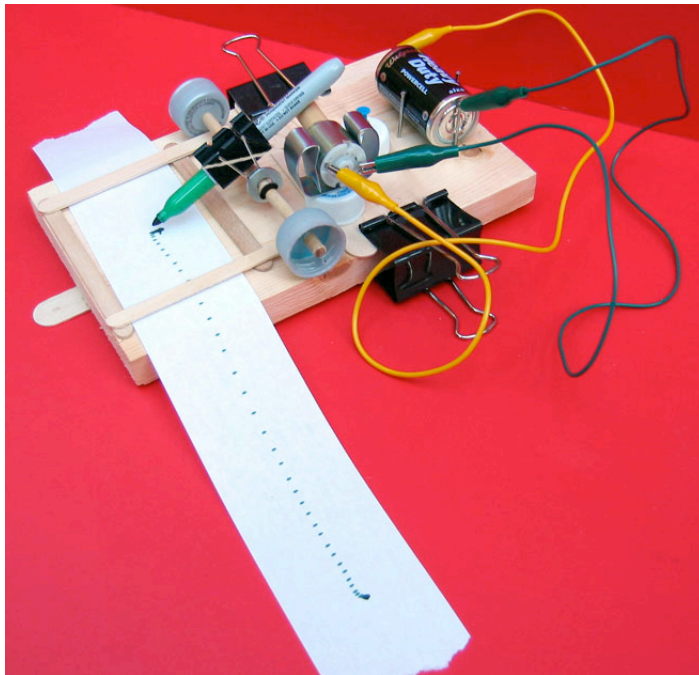

Figure 1
probably best to hammer nails for battery holder before putting other items on the board -- see Figures 1, 5 and 6 for location
2. Turn on the timer and slowly pull the paper a few inches. Inspect the paper to make sure that the pen is making distinct marks on the tape (see an example of a tape in Figures 1, 5 and 6). If it doesn't, adjust the position of the tongue depressor that has the motor mount on it, and/or adjust the position of the dowel that hits the pen by turning the whole broom holder motor mount assembly.